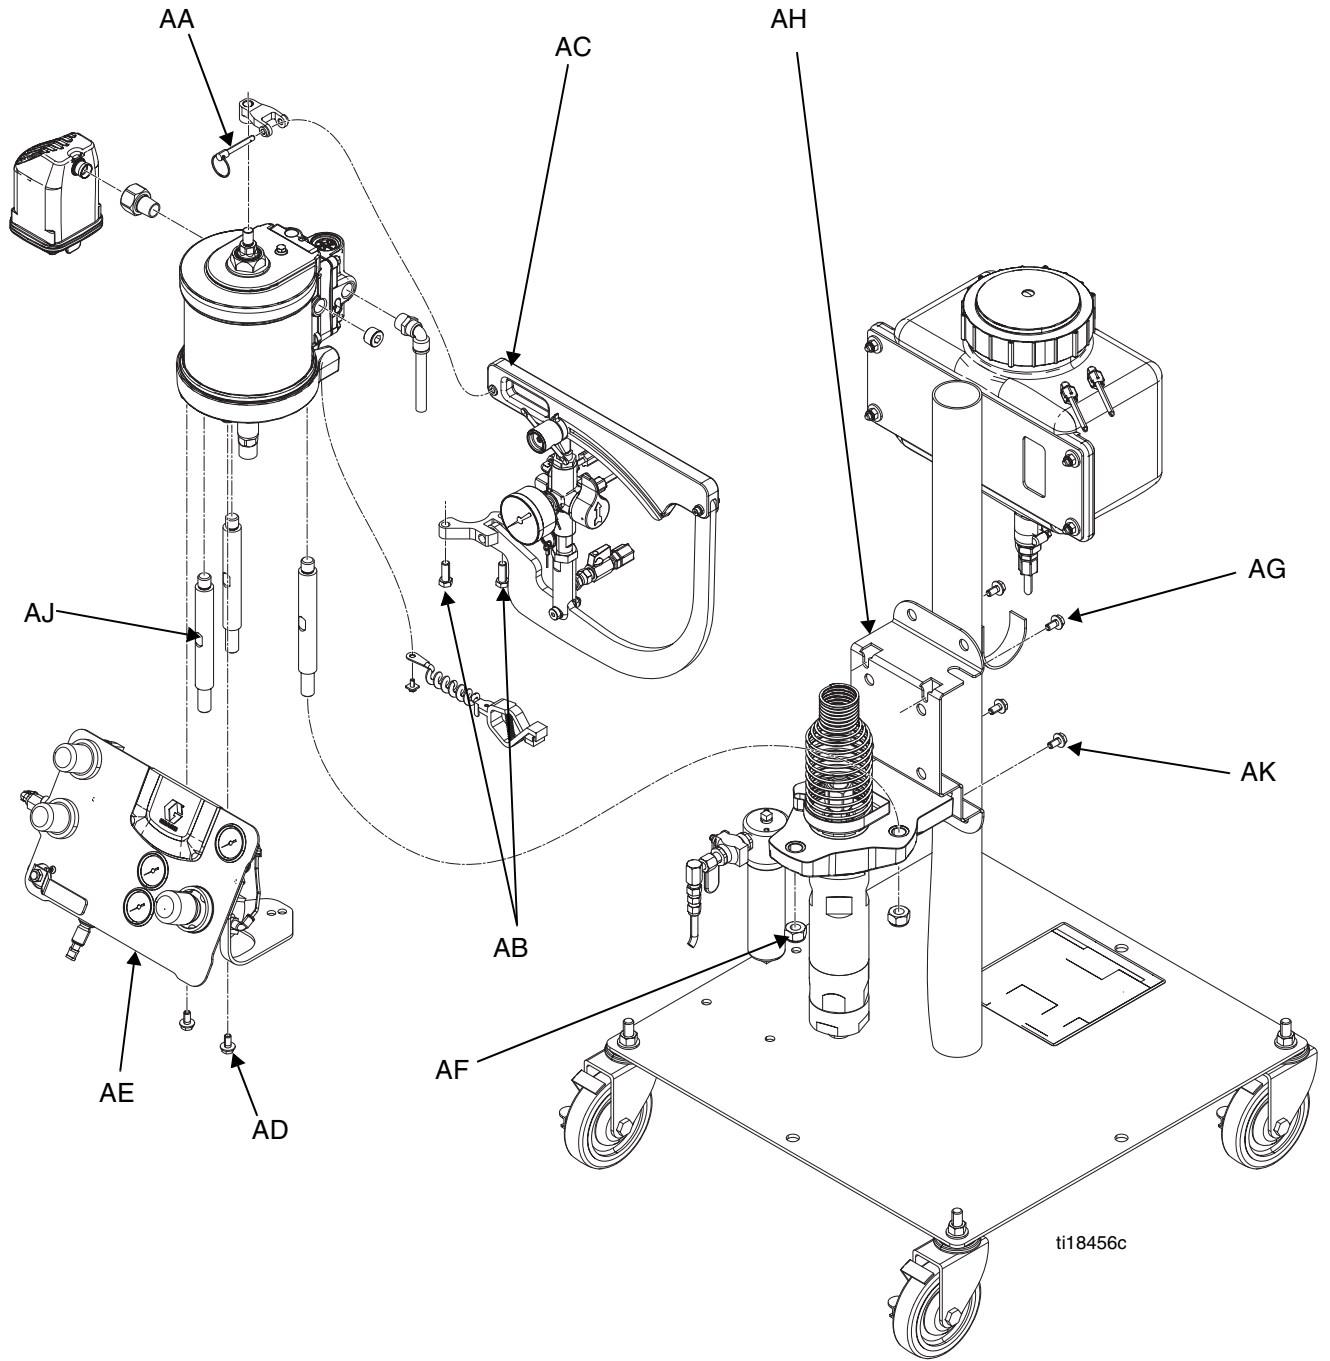

FIG. 36
See manual 3A2315 for air motor service and parts information. See FIG. 36 on page 45.
See FIG. 36 on page 45.
3. Disconnect main air line from air panel (AE).
4. Disconnect items from the air motor, see FIG. 36 on page 45:
- b. Remove top pin (AA) connecting upper catalyst pump arm to air motor, then remove bolts (AB) connecting lower catalyst pump arm to air motor then remove catalyst pump and control arms assembly (AC).
- c. Remove two bolts (AD) securing air control panel to air motor then remove air control panel (AE).
7. Use a socket to loosen the two screws (AG) connecting the air motor to the mounting bracket (AH).
8. Use a socket to remove the two screws (AK) securing the displacement pump to the mounting bracket.